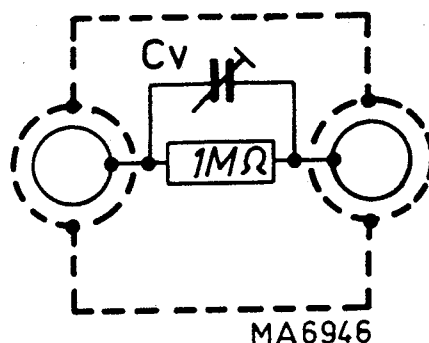

Fig. 3.16. 2:1 Dummy probe
- Set YA (B) AMPL/DIV switch to 2 mV.
- Release the 0 pushbutton YA (B).
- To equalize the input capacitance in all positions of the AMPL/DIV (i.e. attenuator) switch, for some adjustments, a 2:1 dummy measuring probe is connected in series with YA (B) input socket. The dummy probe consists of the parallel circuit of a 1 M $\Omega$  resistor and a 3-60 pF trimmer (Fig. 3.16.) and is adjusted as indicated in the following table.
- Connect a square-wave voltage with an amplitude as indicated in the following table, a repetition rate of 10 kHz and a rise time not exceeding 100 ns to YA (B) input socket.